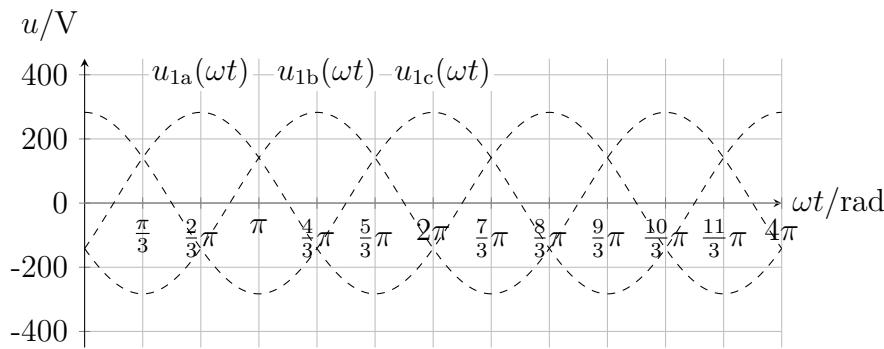

Fig. 5: Output voltage  $u_2(t)$  for  $\alpha$ .
3.1 Calculate the required firing angle  $\alpha$  to deliver the specified motor terminal voltage (induced + ohmic). Draw the output voltage signal  $u_2(t)$  for this angle into Fig. 5. [3 Points]